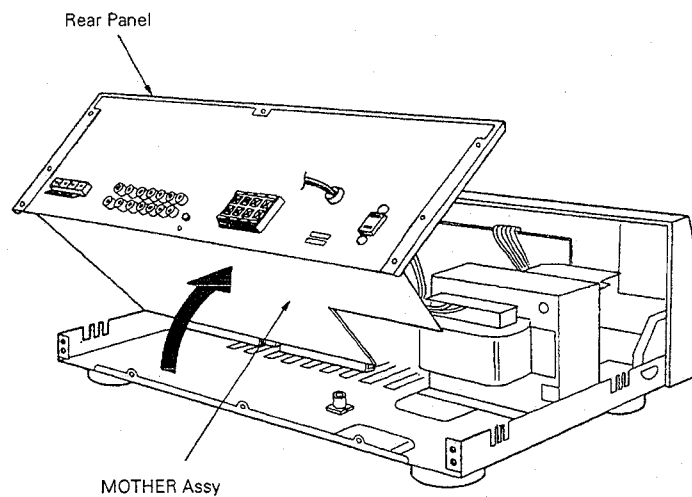

Fig. 2
1. Remove lower set screw ① at the center of the Chassis and Rear Panel.
2. Cut binder ② and remove.
3. Remove the three screws ③ fastening the MOTHER Assy, and the two screws ④ fastening the Radiator.
4. Grip the Radiator and Rear Panel, and lift up about 3 cm. Then, lift up the MOTHER Assy as shown in Fig. 2 so that it can be checked.